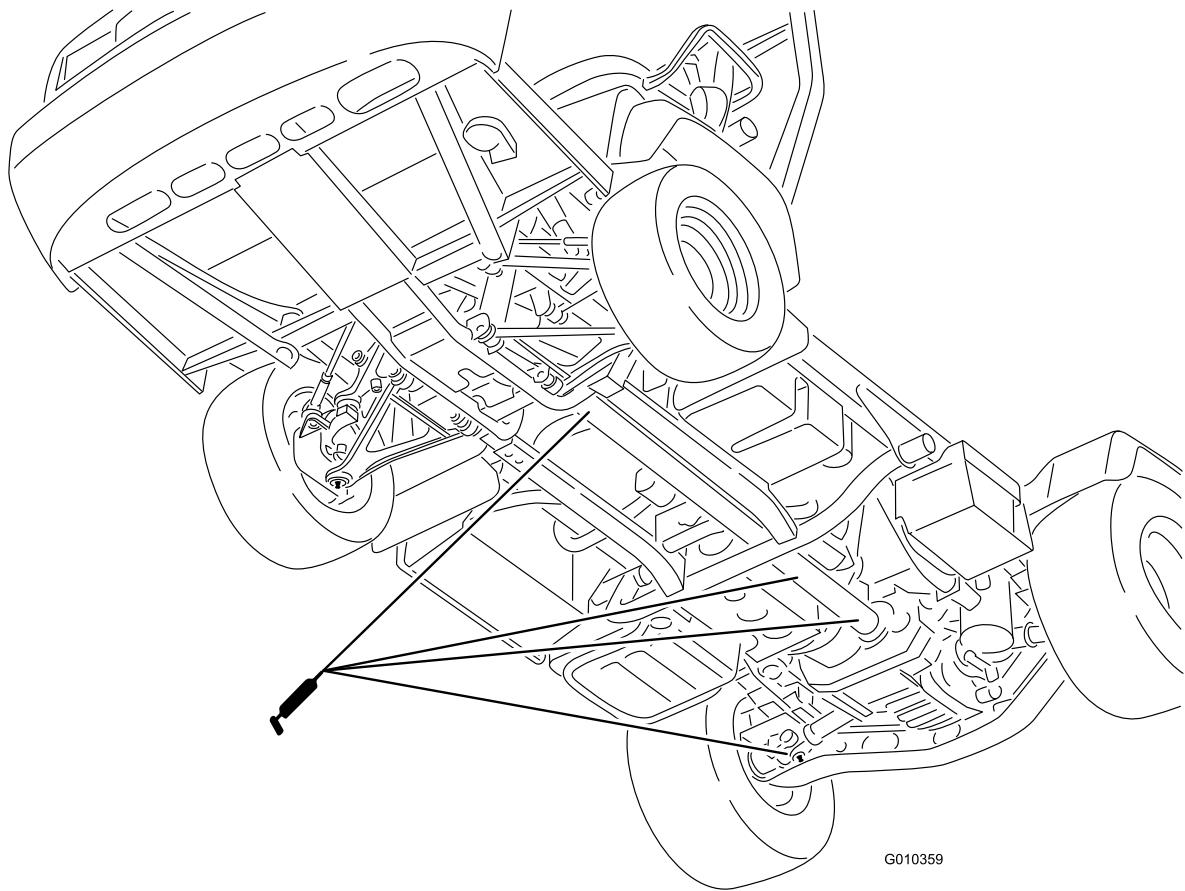

Figure 41
- U-joint (18) and 4 wheel drive shaft (3) (Figure 41)